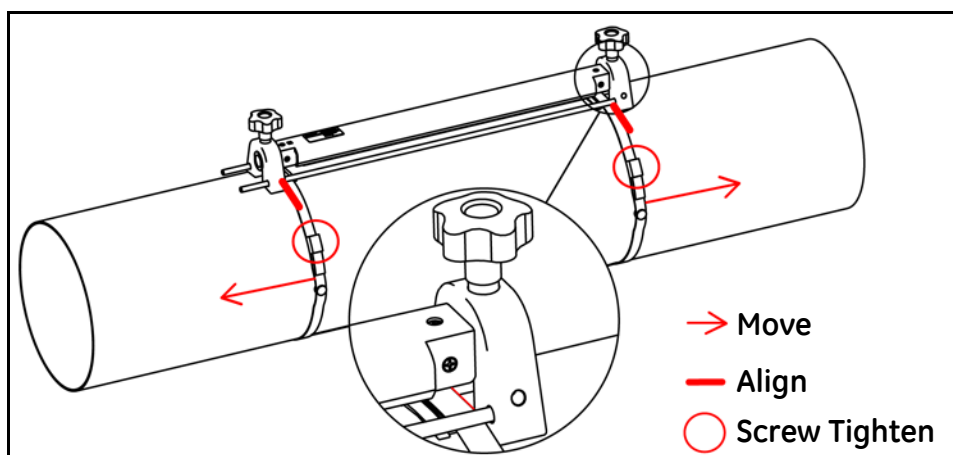

Figure 11: 2 Traverse Installation with 1 Clamp-On Fixture
- c. Hold the fixture against the pipe and move the mounting straps onto the fixture. Then, tighten the screws on the straps, and verify that the straps remain in place on the fixture (see Figure 11 below).